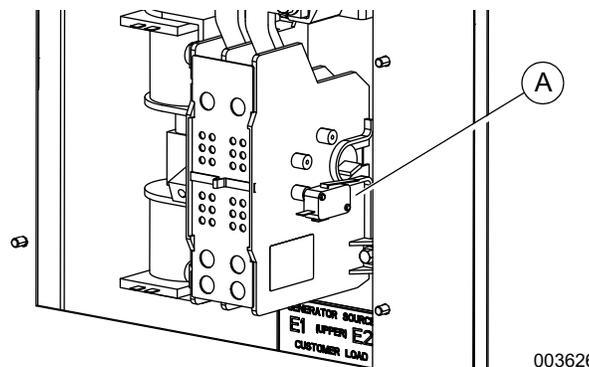

Figure 3-9. Auxiliary Contact
See Figure 3-9. If desired, there is one normally-closed Auxiliary Contact (A) on the transfer switch to operate customer accessories, remote advisory lights, or remote annunciator devices. A suitable power source must be connected to the common terminal. If needed, an extra auxiliary contact can be added.